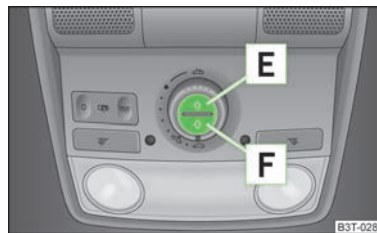

Fig. 30
The sun screen can be closed or opened separately using the buttons » Fig. 30.
- › Briefly press the button **E** » Fig. 30 to open fully.
- Briefly press the button **F** » Fig. 30 to close fully.
Press and hold the switch **F** » Fig. 30 for approx. 10 seconds to initialise the sun screen.